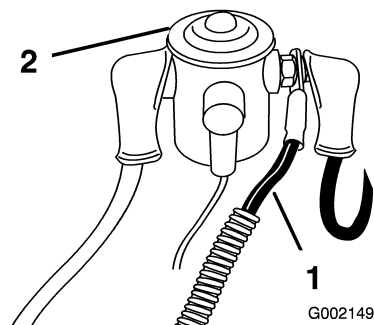

Figure 6
10. Connect the red power wire to the left side of the solenoid (Figure 6), located under the seat.